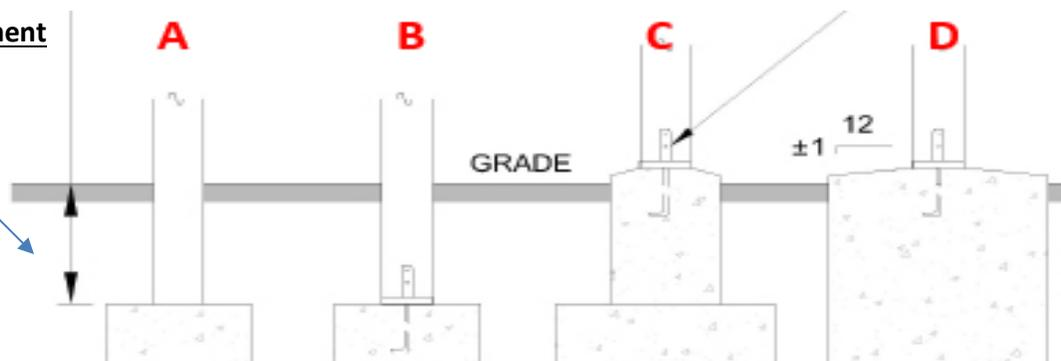

Figure R507.3
- Where posts bear on concrete footings in accordance with **Figure R507.3** on the previous page, lateral restraint shall be provided by **engineered post connections** or a minimum **post embedment of 12 inches**.